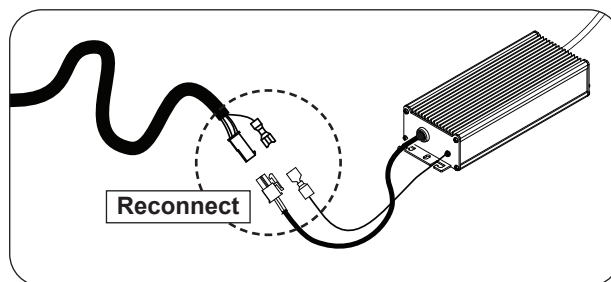

Fig. 28-2 Reconnect harness
4. Reconnect the harness extension to the power supply (See Fig. 28-2).